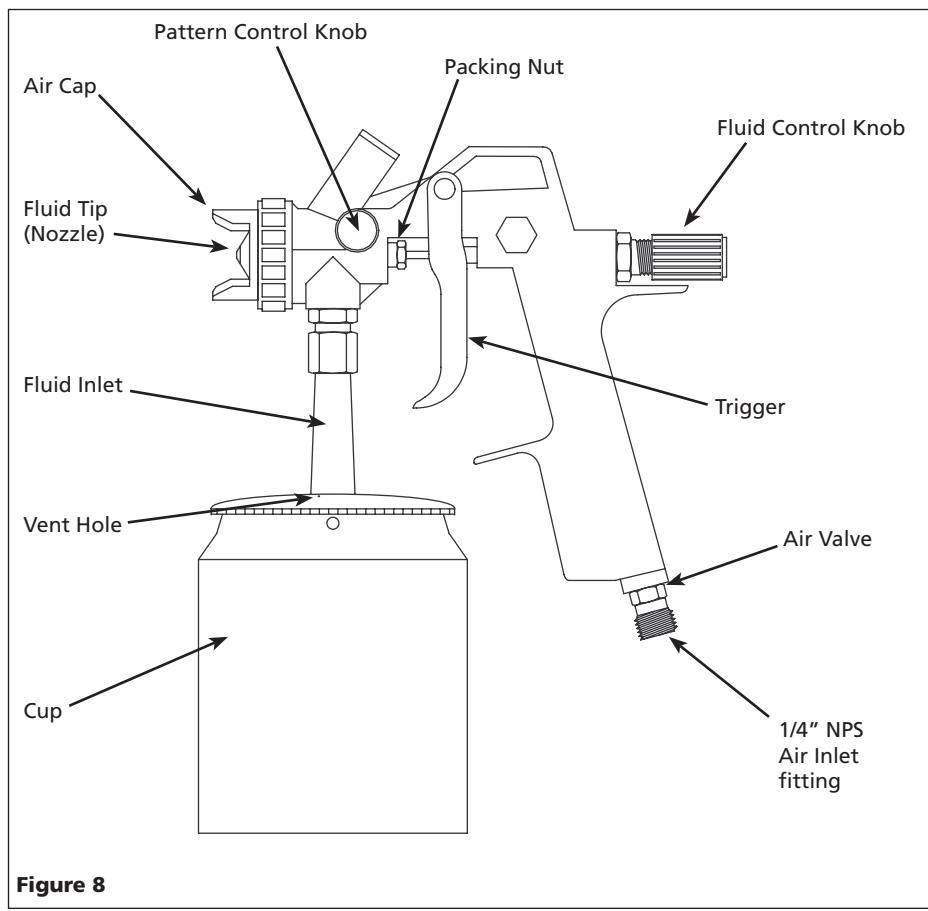

Figure 8
5. Unscrew packing nuts and replace the packing ONLY if a leak will not stop when the nut is tightened (See Figure 8). Do not over-tighten a packing nut because this will restrict movement of the needle.